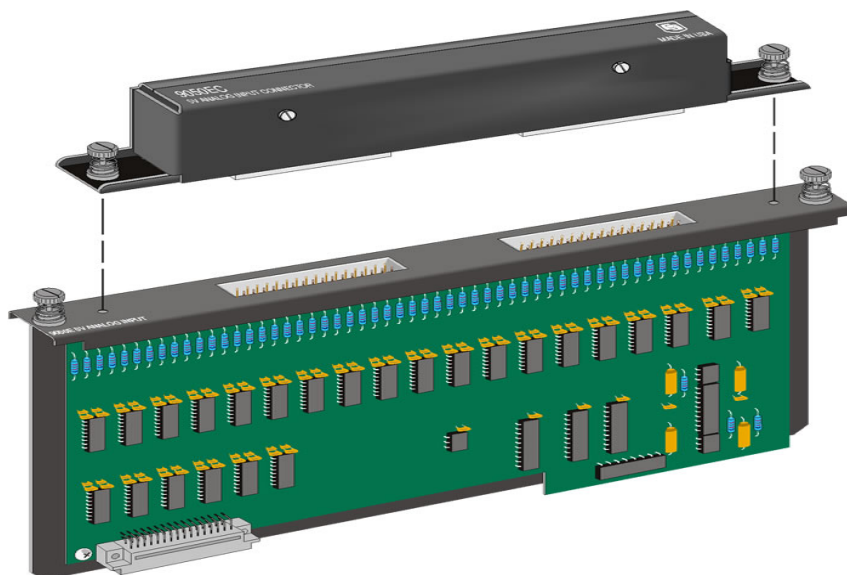

FIGURE OV1-6. CR9051E with CR9050EC
The only difference between a CR9050 and a CR9050E is that the CR9050E is an "Easy Connect" module type, and includes a CR9050EC. Both the CR9050E and the CR9051E use the same CR9050EC Easy Connect module (See Figure OV1-6). The CR9050E typically remains in the CR9000(X) chassis while each CR9050EC remains connected to the sensors. This allows one CR9000(X) system to be moved from location to location and be quickly connected to the sensors on-site.
The only difference between a CR9055 and a CR9055E is that the CR9055E is an "Easy Connect" module type, and includes a CR9055EC (See Figure OV1-6). The CR9055E typically remains in the CR9000(X) chassis while each CR9055EC remains connected to the sensors. This allows one CR9000(X) system to be moved from location to location and be quickly connected to the sensors on-site.